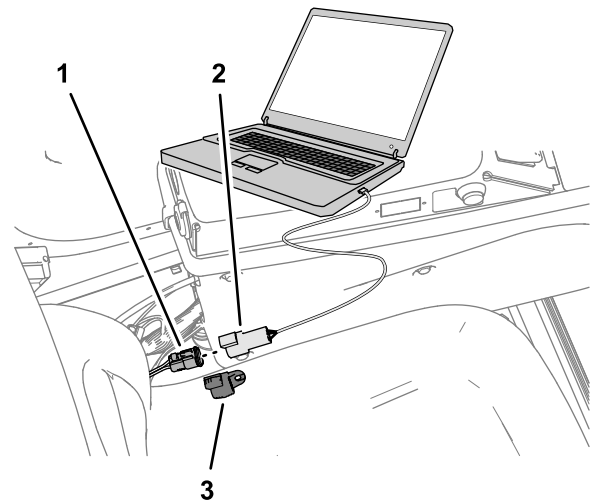

Figure 155
7. Remove the connector of the USB/CAN interface cable from the connector of the kit wire harness, and install the cap onto the wire harness connector (Figure 155).